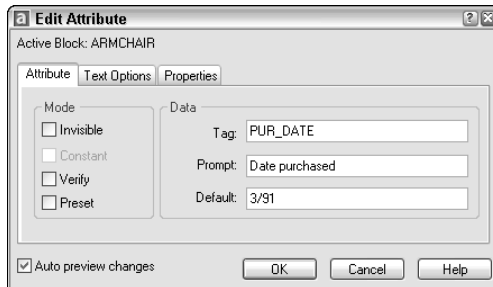

Figure 18-23: The Edit Attribute dialog box
- ♦ **Edit the attributes, including prompt, default, text display, and properties.** Click Edit to open the Edit Attribute dialog box, shown in Figure 18-23.